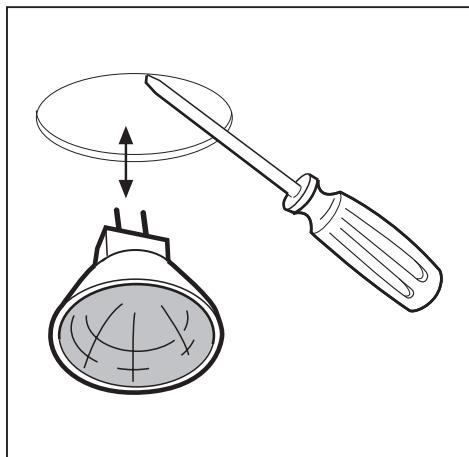

Fig.18
• Replacing halogen light bulbs (Fig.18):